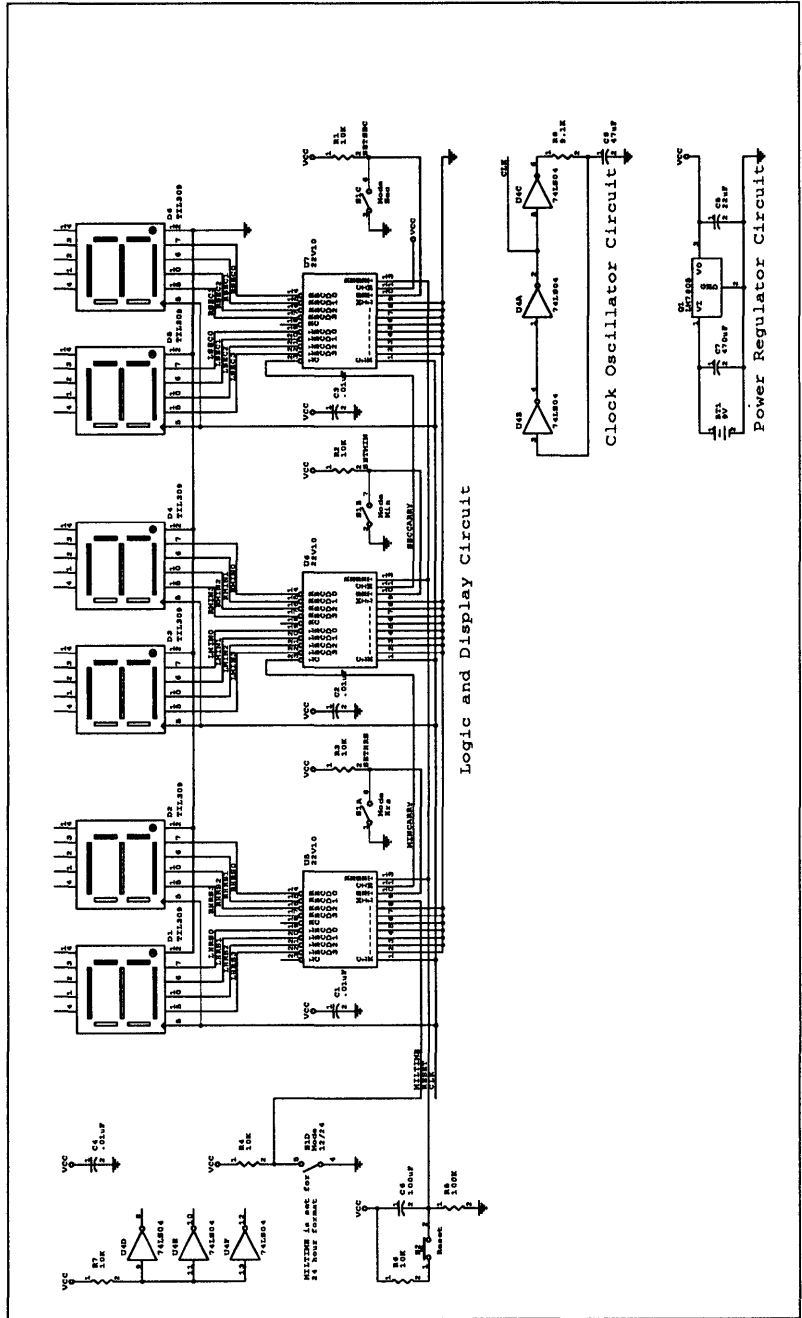

Figure 6-7. Completed TUTOR.SCH schematic.
Figure 6-7 on the next page shows how the schematic will look when you are through with the remaining steps in this chapter.
When you compare the schematic in figure 6-7 with the schematic you have captured so far, you can see you only need to add a few components and place a few more wires to have a functional circuit. You also need to edit the labels and other text in the schematic.
4. Using the same procedure as in steps 2 and 3, assign the values shown in figure 6-7 to the all parts on the schematic. Table 6-1 gives a list of the new values to edit (you have already edited the first item in this table). Notice that some of the parts require that you enter information into **1st Part field**.
The clock signal from the clock oscillator circuit is now logically connected to the wire to which you attached the CLK label. (see figure 6-7).
4. The "Label?" prompt returns each time after you place a label. Label the following wires: MILTIME, RESET, SETHRS, MINCARRY, SETMIN, SECCARRY, and SETSEC. Refer to figure 6-7 for the location of these wires. Press <Esc> to stop placing labels.
3. Move the pointer to the bottom wire directly below the leftmost clock segment, and place the label as shown in figure 6-7.
7. See figure 6-7 and **PLACE** labels for the remaining left displays (**LMIN n** and **LSEC n**) by repeating steps 1 through 5.
5. Move the pointer to the top wire for the right hours display, and place the label as shown in figure 6-7.
7. See figure 6-7 and **PLACE** labels for the remaining right displays (**RMIN n** and **RSEC n**) by repeating steps 3 through 6.
7. See figure 6-7 and place the text to the left of the 12/24 switch, at approximately (.80, 6.10).